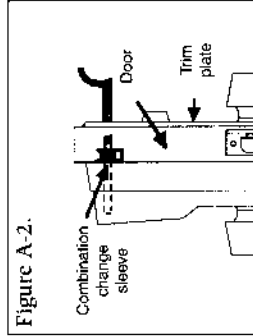
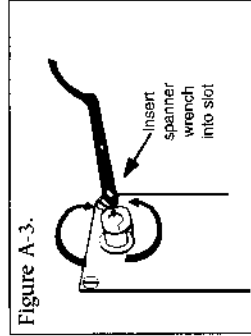

Figure A-2.
Figure A-3.
- 4• Insert the spanner wrench as shown in Figure A-2 to engage the combination change sleeve. Gently turn the spanner wrench clockwise to the stop position (a slight click should be felt), then turn the spanner wrench counterclockwise to the stop position (see Figure A-3). Remove the spanner wrench.